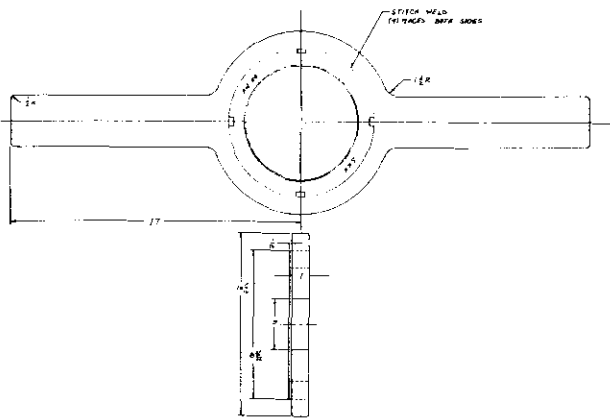

Fig. 8-6e
14. Lubricate the tapered sleeve with a light coat of machine oil. LPS-2 is recommended. Slide the bearing and sleeve onto the shaft as far as it will go. To properly tighten the pump bearings on their expansion sleeve, it is necessary to use a wrench similar to that shown on Fig. 8-6e. When proper clearance is achieved, remove wrench and install lockwasher and locknut.
NOTE: For mounting bearings SKF manufactures a hydraulic nut #HMV34 which can be used in place of Fig. 8-6e. Consult your local SKF bearing distributor for further details.